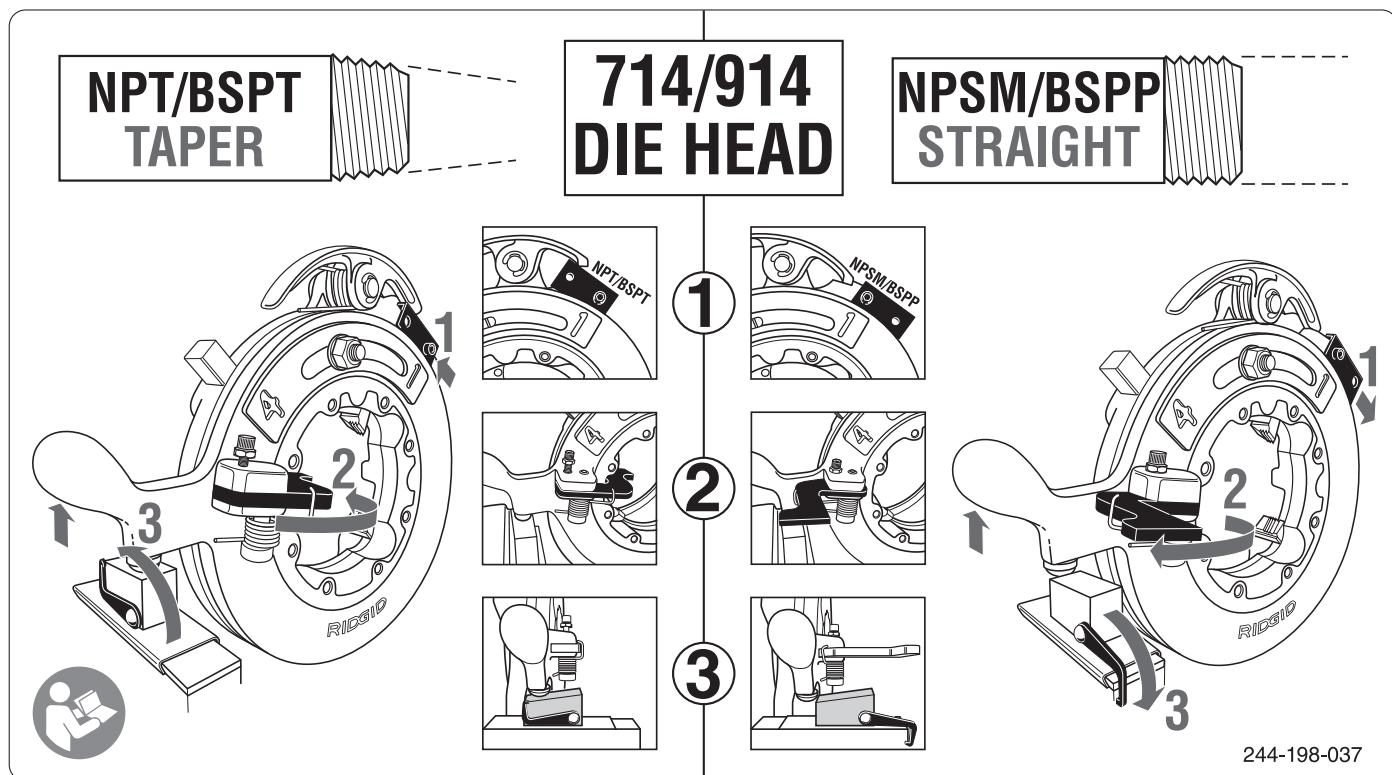

Figure 15 – Adjusting for Tapered or Straight Pipe Threads
1. For tapered threads (NPT or BSPT depending on die head), referencing *Figure 15*, adjustments are “IN”.
2. For straight threads (NPSM or BSPP depending on die head), referencing *Figure 15*, the adjustments are “OUT”.